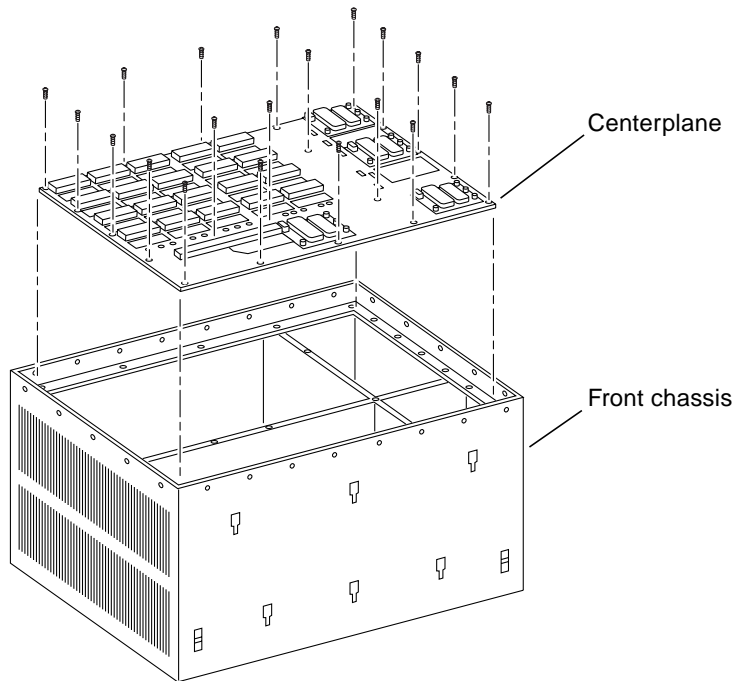

FIGURE 12 Centerplane Replacement Detail
3. Remove the 20 screws that hold the centerplane to the front chassis (FIGURE 12).